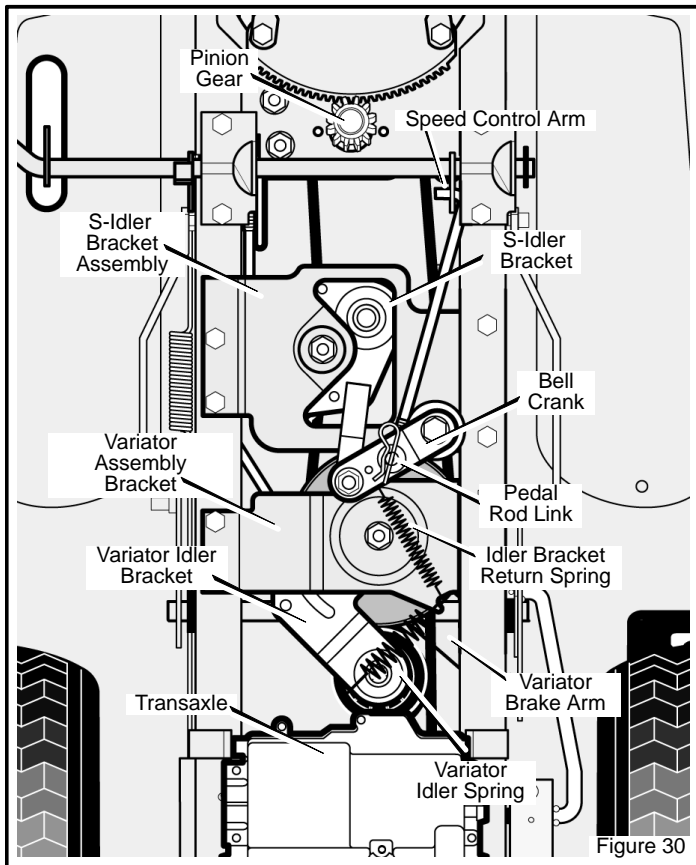

Figure 30
3. Remove the snap-ring and the **pinion gear** from the end of the steering column (see Figure 30). Slide the steering column up to allow removal of the **engine drive belt**.
3. Check the routing of the **engine drive belt** at the **steering column** (see Figure 37). Make sure that the **engine drive belt** is routed to the inside of the **small idler** and underneath the **L-shaped belt guide**. Also, make sure the **engine drive belt** is inside of the speed control arm (see Figure 30).